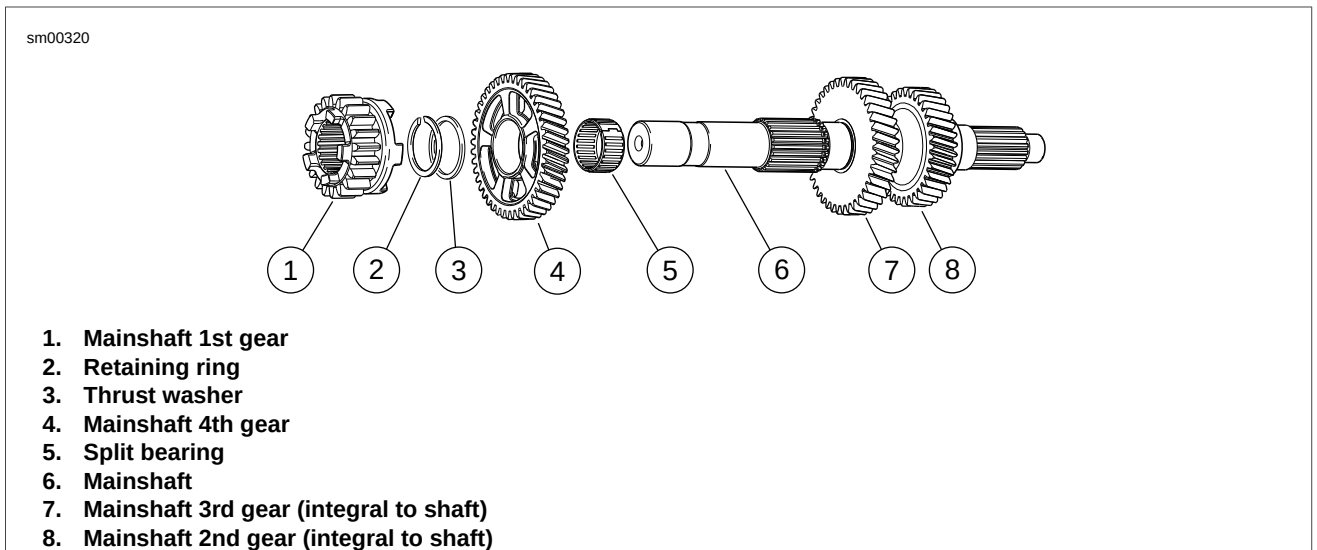

Figure 6-62. Transmission Mainshaft
- See Figure 6-62. Remove 1st gear (1).
- Use TRANSMISSION SHAFT RETAINING RING PLIERS (Part No. J-5586-A) to expand and remove retaining ring (2). Discard retaining ring.
- Slide thrust washer (3) off end of mainshaft.
- Remove 4th gear (4) and split bearing (5). Discard bearing.